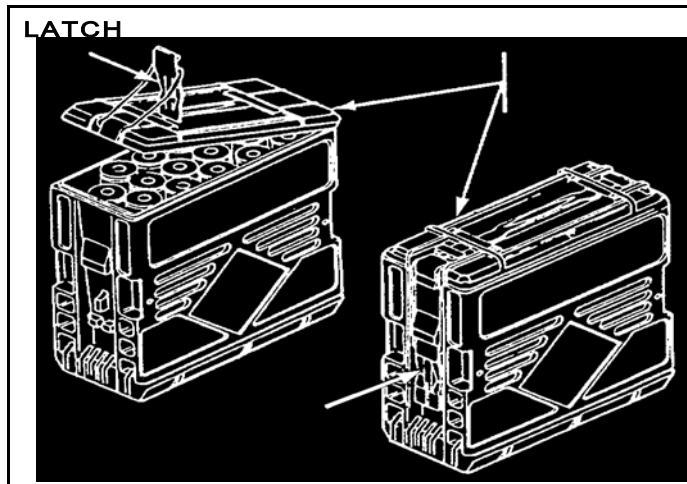

Figure 3. Ammunition box.
- b. Place the first ammunition belt in the ammunition box with the rounds pointed down. Close and latch the lid. Turn the box over (Figure 3).